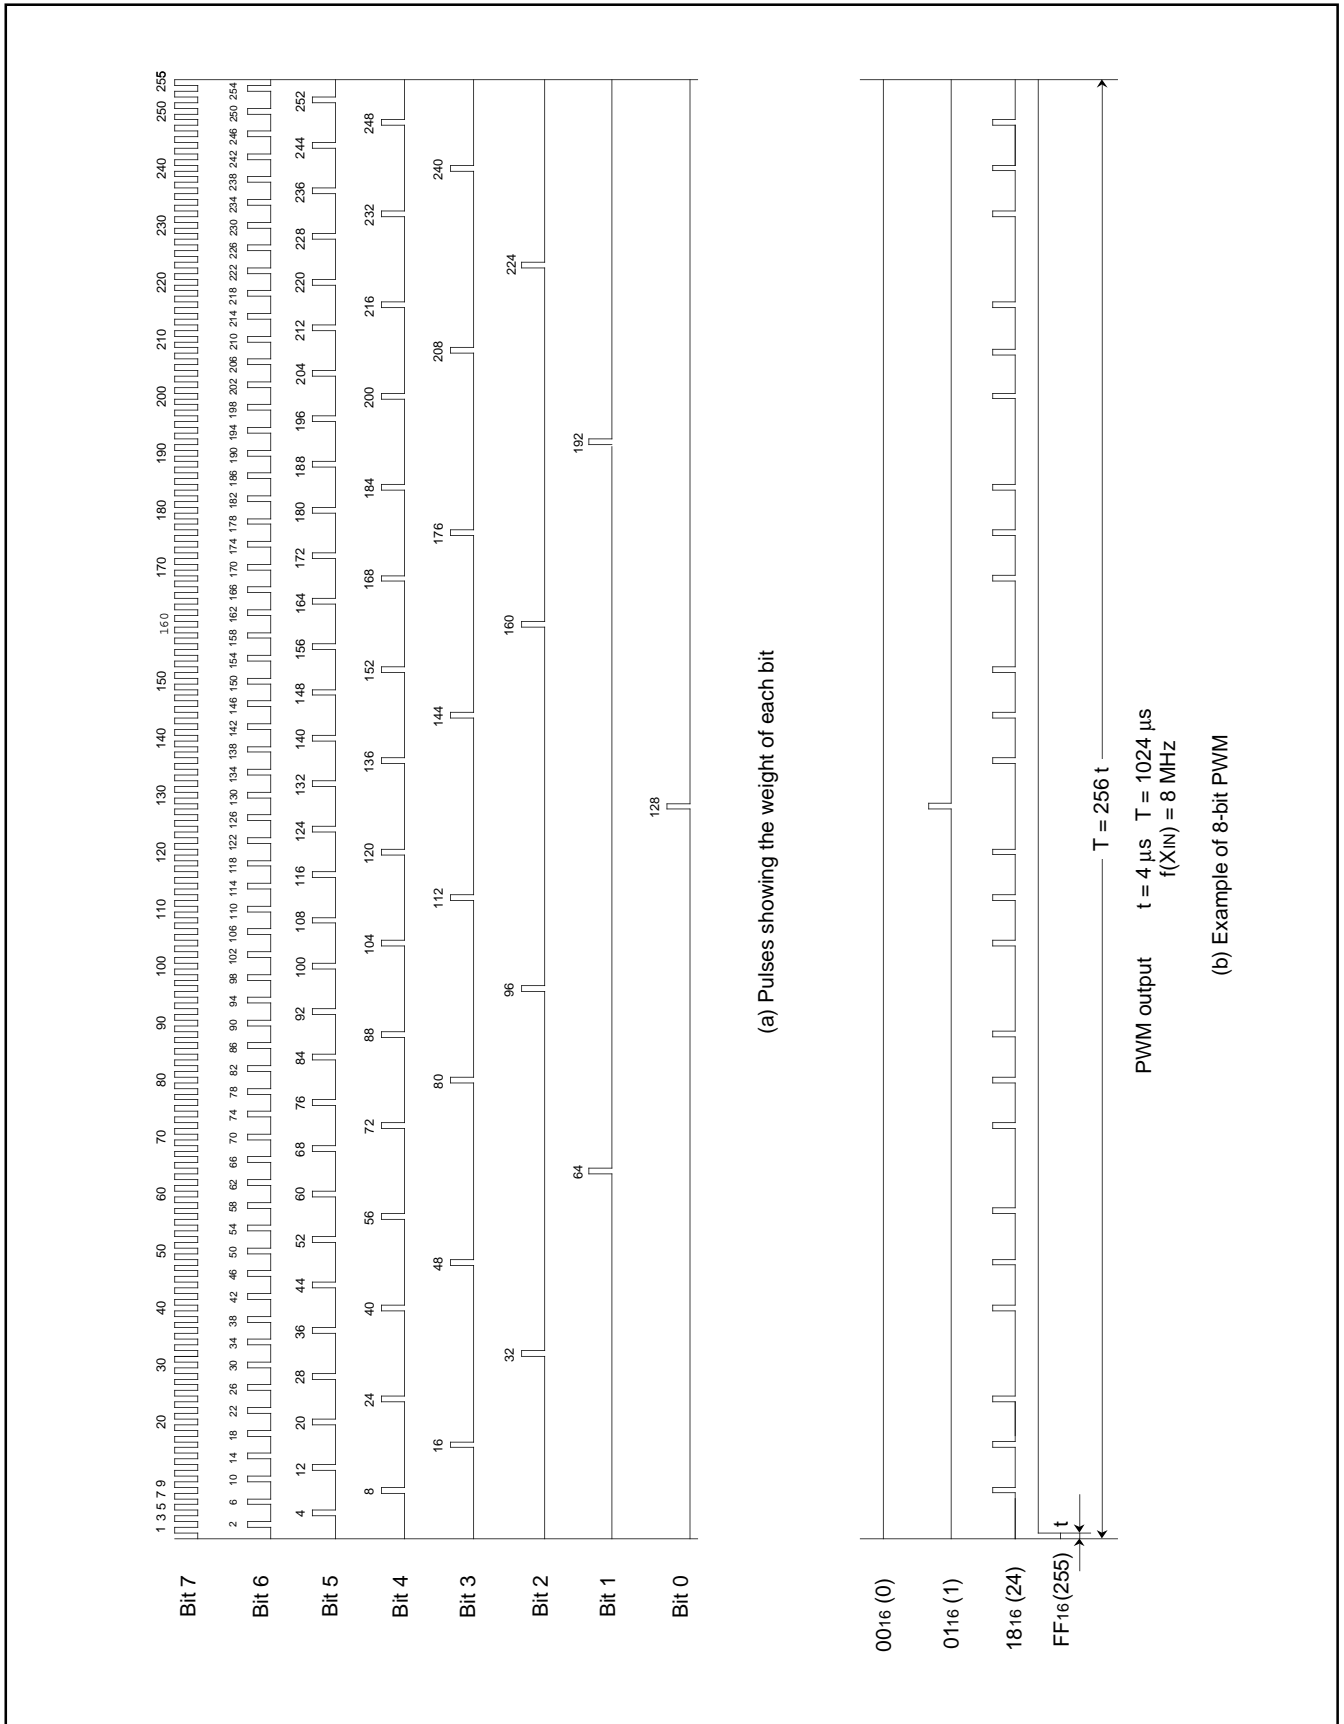

Fig. 23. 8-bit PWM Timing
Figure 23 shows the 8-bit PWM timing. One cycle (T) is composed of $256 (2^8)$ segments. The 8 kinds of pulses, relative to the weight of each bit (bits 0 to 7), are output inside the circuit during 1 cycle. Refer to Figure 20 (a). The 8-bit PWM outputs waveform which is the logical sum (OR) of pulses corresponding to the contents of bits 0 to 7 of the 8-bit PWM register. Several examples are shown in Figure 23 (b). 256 kinds of output (HIGH area: $0/256$ to $255/256$) are selected by changing the contents of the PWM register. A length of entirely HIGH cannot be output, i.e. $256/256$.
(4) Operating of 14-bit PWM
The output example of the 14-bit PWM is shown in Figure 23.